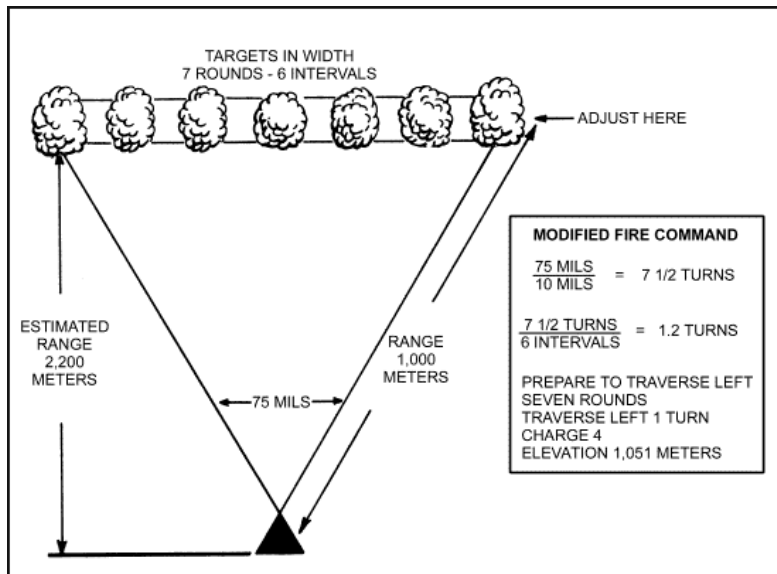

Figure 8-2. Traversing fire.
e. In Figure 8-2, the FO measures the width of his target to be 75 mils. Using a map, he estimates the range to be 2,200 meters. Using the mil relation formula, he determines the width of the target to be 165 meters and decides to attack the target with seven rounds. There will be six intervals between the seven rounds. Since the target is 75 mils wide, he determines the number of turns to be $7 \frac{1}{2}$ turns. To determine the number of turns between rounds, he divides the number of turns by the number of intervals ($7 \frac{1}{2}$ divided by 6 = 1.07). This is rounded off to the nearest one-half turn (1 turn).